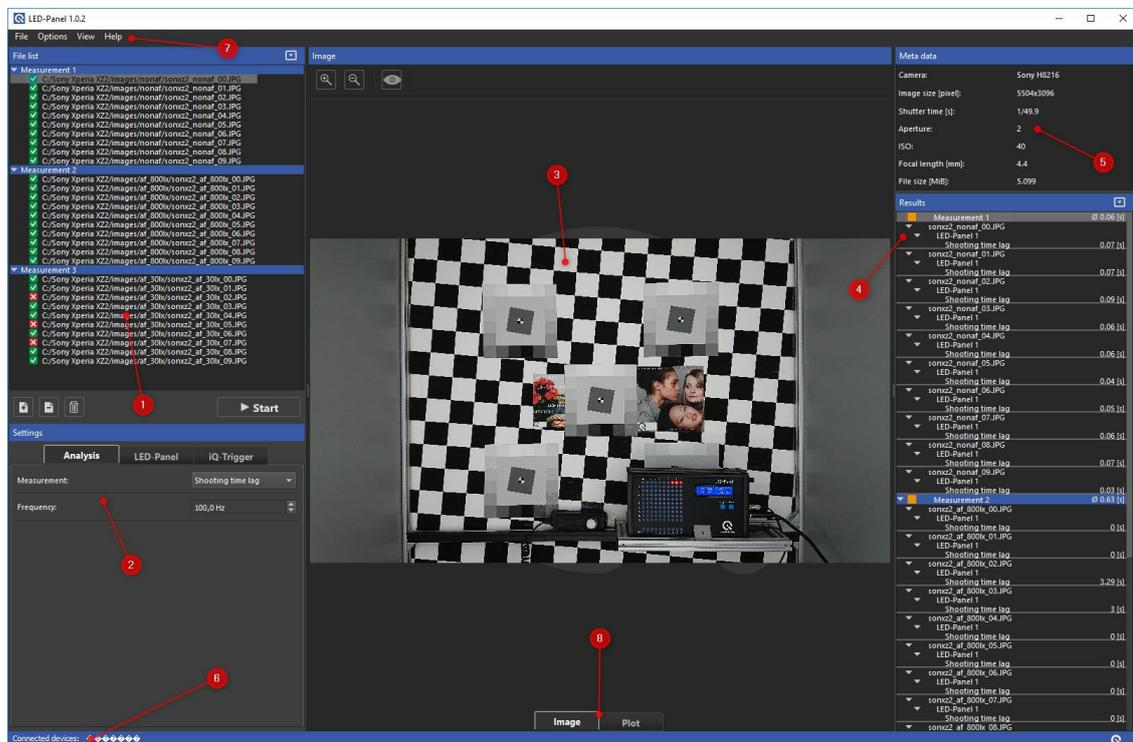
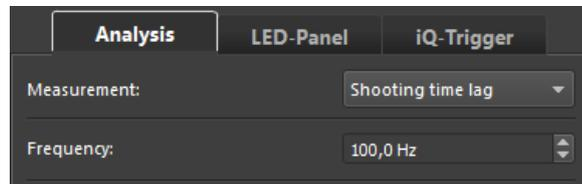

Figure 15
Figure 17
The graphical user interface (GUI) is divided into three major parts (see Figure 15)
- the file list and the setting control panel (Figure 15, ① & ②)
- the image view (Figure 15, ③)
- the results and the meta data view (Figure 15, ④ & ⑤).
The control panel (Figure 15, ②) is divided into three different tabs (Figure 17).
In the “Analysis tab” (Figure 17) you can choose the measurement method and the frequency. The set frequency is used to calculate the time shown by the LED-Panel in your images. For further details on how to measure different camera timings please refer to chapter 5 and ISO 15781.
The image view panel (Figure 15, ③) shows the image that is currently selected in the file list. With the +-button you can zoom in. The --button resets the zoom level to fit the view panel.
The menu bar (Figure 15, ⑦) provides some quick accessible options.
The status bar (Figure 15, ⑥) at the bottom of the application shows the serial number(s) of the connected LED-Panel. By clicking a serial number the specific LED-Panel display will start flashing.